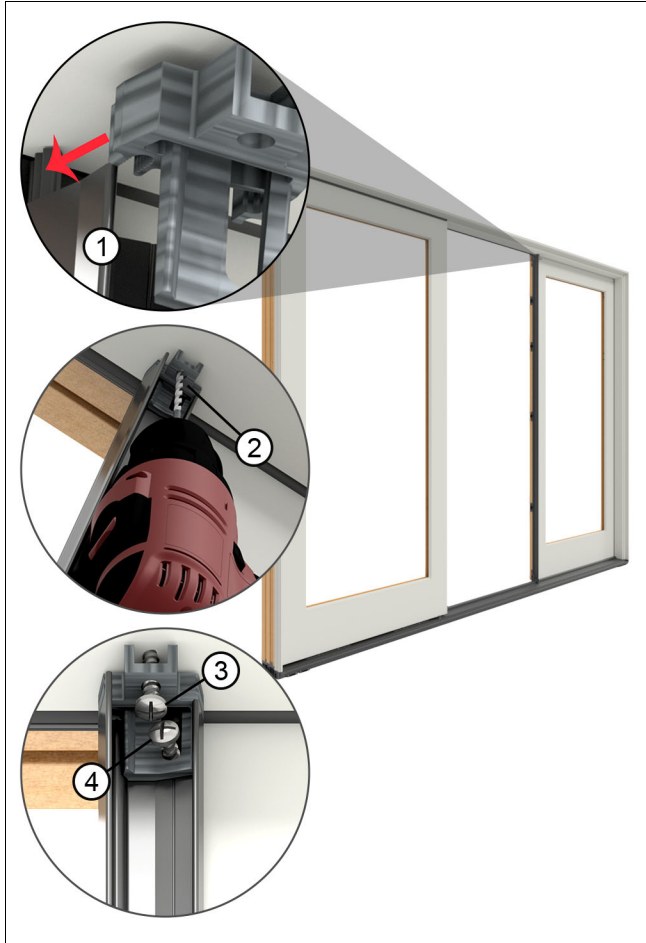

Figure 45
19. Install the head jamb mull end bracket. Slide the bracket into place above the mull base. Pre drill into the surface of the part stop cladding with a 1/8" drill bit and fasten with #8 x 1 7/8" screws into the head jamb frame. Fasten to the panel with one #8 x 1 1/4" screw. Note that the screw goes in at a slight angle at the end of the slot. See Figure 45.